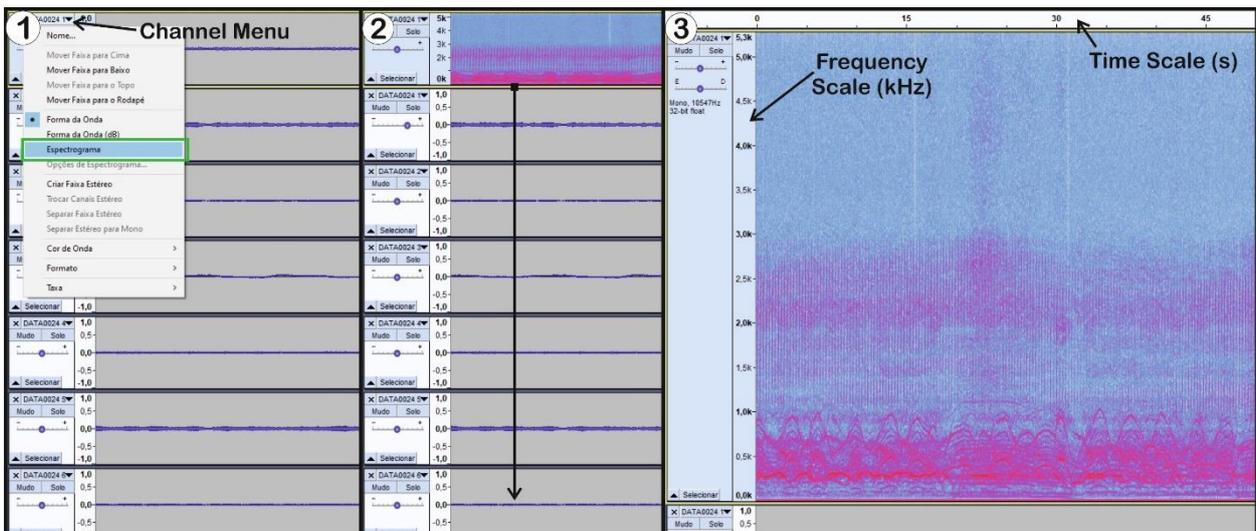

Figure 39 - Change from waveform view to spectrogram view
To visually analyse a channel it’s common to use a spectrogram, which represent the amplitude of each signal frequency component, in time domain. To change from a waveform to spectrogram view in Audacity, simply select “spectrogram” in the “channel menu” (1 in Figure 39). The amplitude is represented by a color, the frequency is plotted in Y axis and the time in X axis. To get a better view, drag the border of the channel window to a bigger size (2). There you can see the spectral behaviour of the signal, where the strongest signals get colored red and the weaker ones get a light blue or grey color (3). The X axis has the relative record time of the file, not the real capture time. For example, a 120 seconds record will have a time from 0 to 120 seconds only. The Y axis has the frequency scale in Hertz, which
represent values from 0 to half the sampling rate (due to Nyquist Theorem). In Figure 39, the 10547 SPS will get a maximum frequency of 5273 Hz.